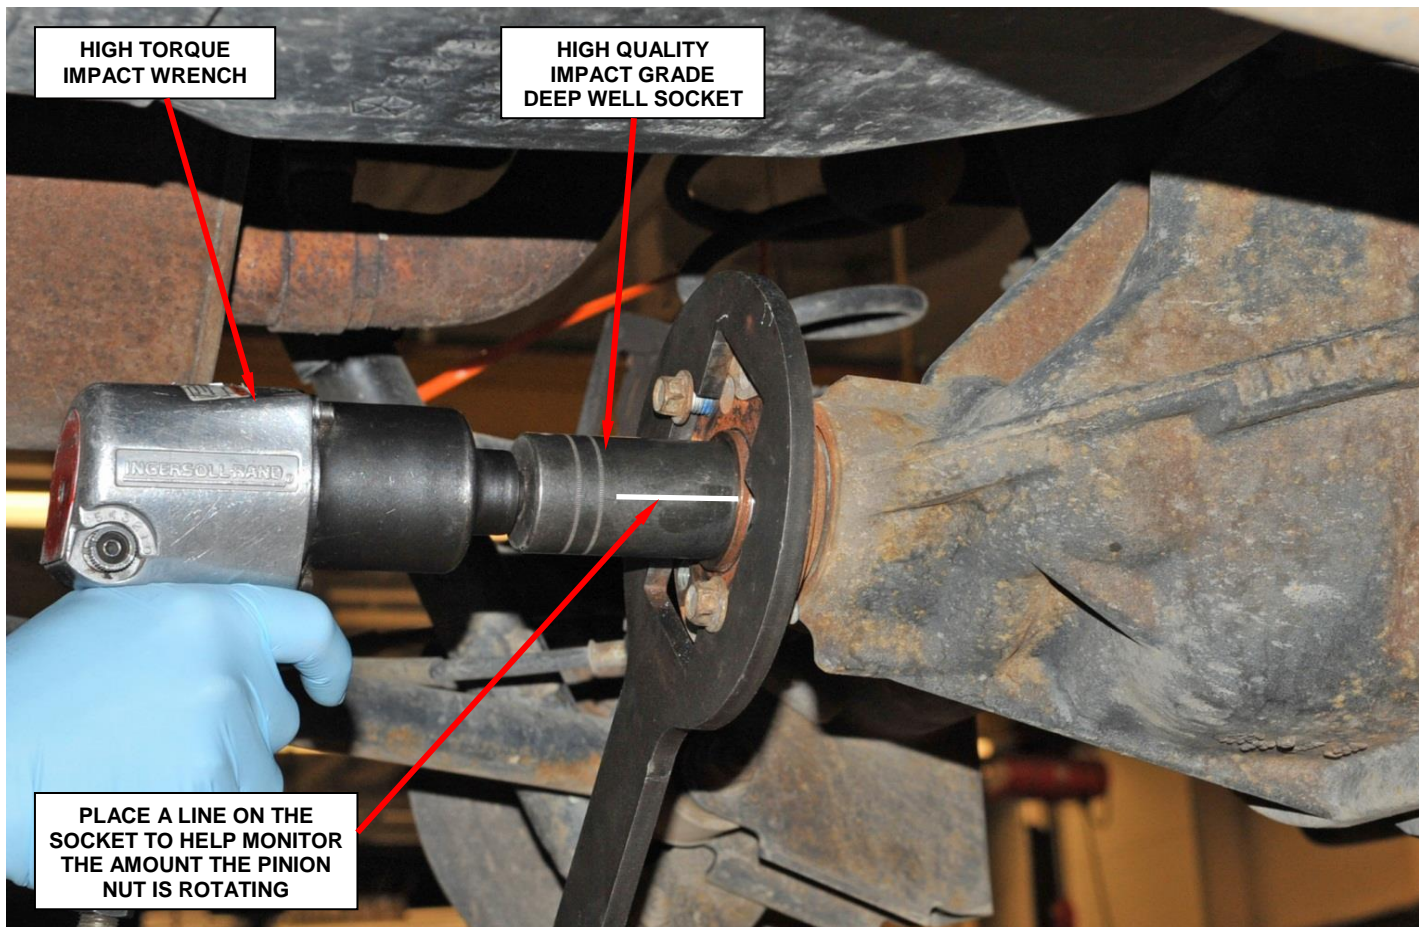

Figure 29 – Tighten Pinion Nut until there is no Free-play in the Pinion Bearings
27. Hold the companion flange with Position Holder 6719A and tighten the pinion nut, with a high quality impact wrench, until there is no free-play in the bearings (Figure 29).